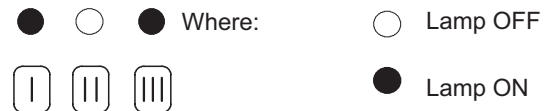

Figure 8.24
- Press the reset button D repeatedly (4 times) until the lamps F give the indication as in Figure 8.24 (ignition pressure adjustment mode).